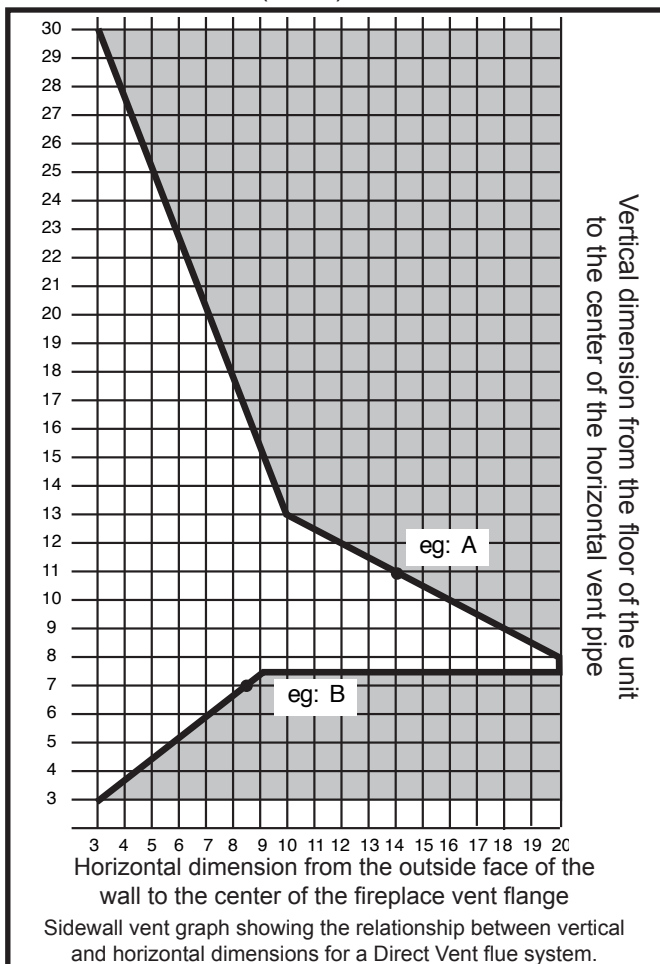

Fig. 42 Sidewall venting graph. (Dimensions in feet)
1. Determine the height of the center of the horizontal vent pipe exiting through the outer wall. Using this dimension on the Sidewall Vent Graph (Fig. 42), locate the point intersecting with the slanted graph line.